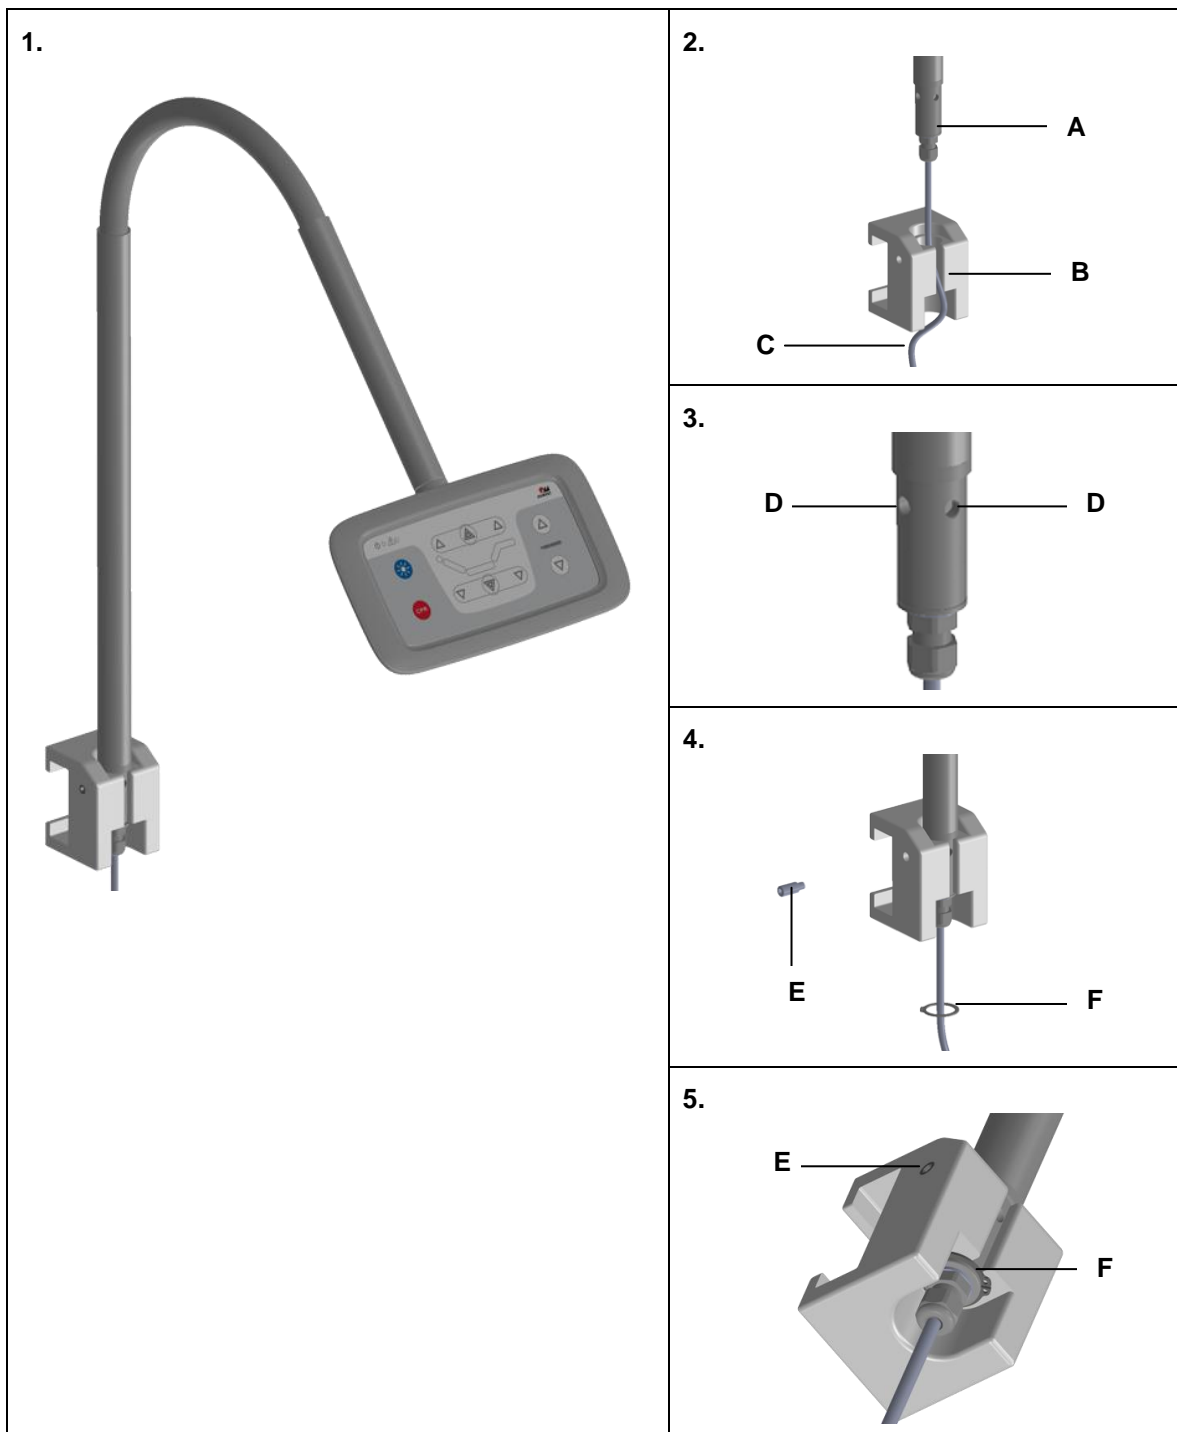

Figure 15 Example: Mounting of the IPROXX /FLEX /SAT (Figure: IPROXX /SAT)
- 1 Slide the handset holder attachment (A) down into the handset holder (B). Thread the handset cable (C) through the slot of the handset holder (B).
- 2 Slide the retaining ring (F) over the handset cable (C). Then put it in the groove of the handset holder attachment (A) (refer to Figure 15). The IPROXX /FLEX /SAT control system can be rotated 360° in the handset holder.
- 3 In order to lock the IPROXX /FLEX /SAT control system in position (0°, 90°, 180° or 270°), insert the set screw (E) through the handset holder attachment (B) and into the retainer hole (D). The set screw (E) must be screwed all the way into the hole.